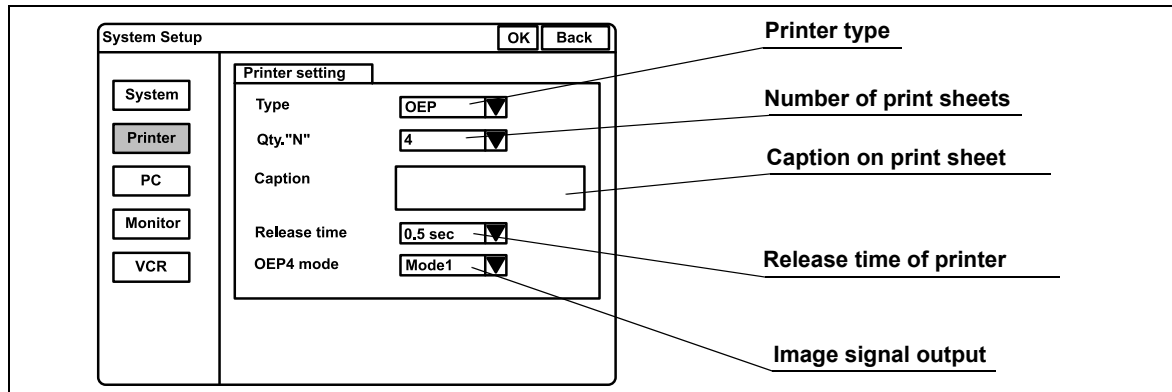

Figure 9.6
Click "Printer" on the system setup menu. The setting items appear on the right part of the window (see Figure 9.6).
1. Click “▼” of the “Qty.“N””. The numbers of the print sheet (4, 5, 6, 7, 8 and 9) appear in the pull-down menu (see Figure 9.6). These numbers are assigned to “N” of the “PRINT QTY.” key on the keyboard.
1. Click “▼” of the “Release time (see Figure 9.6 on page 201). The release times appear in the pull-down menu.
1. Click “▼” of the “OEP4 mode” (see Figure 9.6 on page 201). The output signal appear in the pull-down menu.